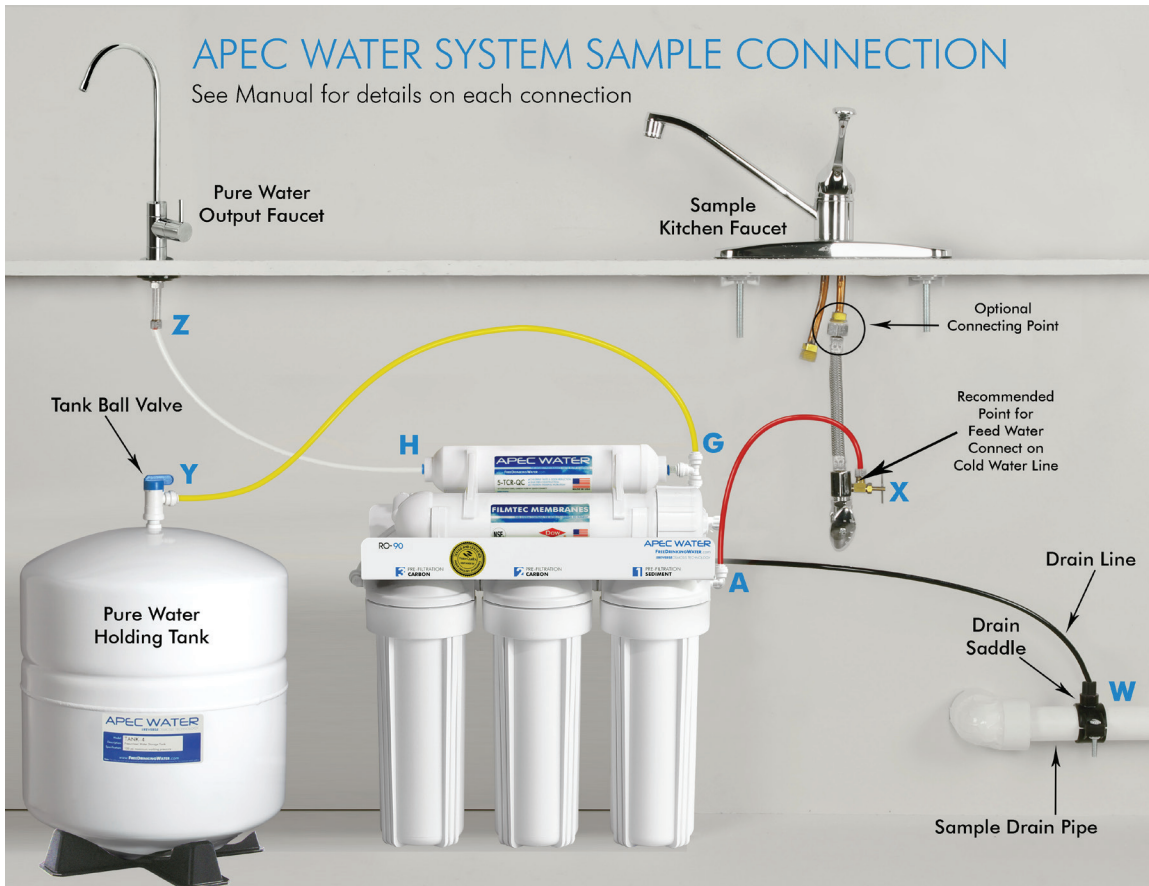
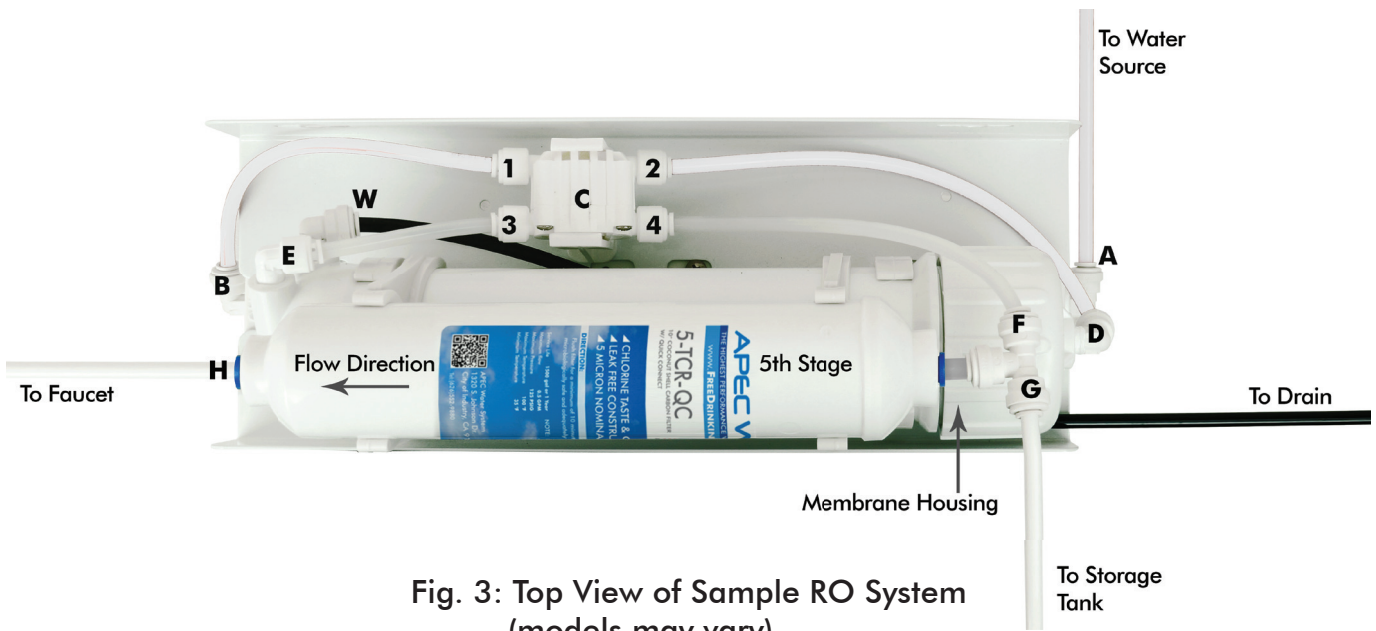

Fig. 2: Sample RO System Setup
Fig. 3: Top View of Sample RO System (models may vary)
- 1) Shut off the feed water line by turning the needle valve clockwise until it stops **(Point X)**. **(Refer to Fig. 2)**
- 2) Disconnect the Yellow line from the tank's on/off valve **(Point Y)**. **(Refer to Fig. 2)**
- 3) Disconnect the Output Clear line from the dispensing faucet's base **(Point Z)**. **(Refer to Fig. 2)**
- 4) Disconnect the remaining Clear line from the T-fitting of stage-5 filter (on the right hand side). **(Point F)**. **(Refer to Fig. 3)**
- 7) The T-fitting on the new stage-5 filter has a 1/4" port and a 3/8" port. The 1/4" port is for connecting the 1/4" Clear line coming from the RO head. **(Point F)**. **(Refer to Fig. 3)** The 3/8" port is for connecting the new 3/8" line provided. Connect the 3/8" Yellow line from this T-fitting to the Tank's on/off valve **(Point Y)**. **(Refer to Fig. 2)** Now the tank and the RO head are connected.
- 8) The 3/8" Clear line provided is for connecting the stage-5 filter to the Faucet. So make this connection. Use the "Reducer" fitting provided to connect the 3/8" line to the 1/4" faucet base **(Point Z)**. **(Refer to Fig. 2)** Now the stage-5 filter is connected to the dispensing faucet.
- 9) Turn on the feed water line by turning the needle valve counter clockwise until it stops **(Point X)**. **(Refer to Fig. 2)**